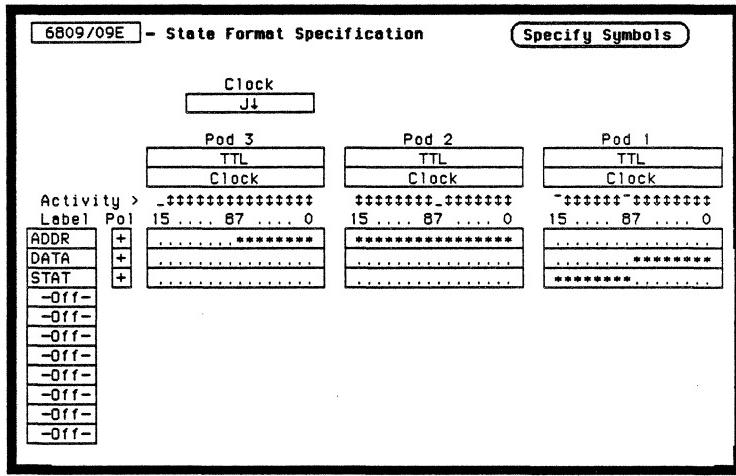

Figure 9. Format Menu for the 6809/6809E with Additional Address Lines
3. In the Format menu, add the additional address channels from the MMU to the ADDR label. The eight additional address channels come in on the least significant eight bits of pod 3. The format specification for a 6809 system with a 24-bit physical address is shown in figure 9.